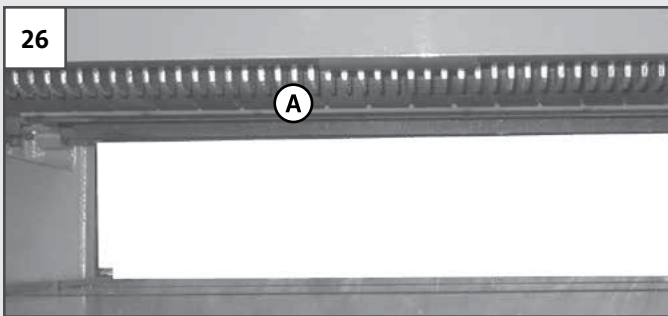

FIGURE 26: ANTI-KICKBACK FINGERS
This planer is equipped with **ANTI-KICKBACK FINGERS (A)** that help prevent the workpiece from being violently ejected from the machine. Check them periodically and ensure they are clean and clear so they can move freely and operate correctly. See Figure 26.